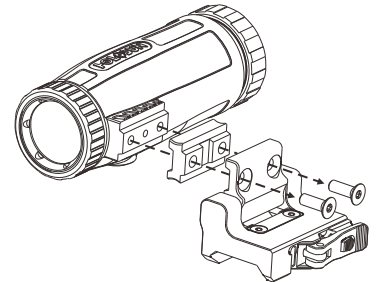

Figure 4
2) Remove the two screws at the bottom, then add or remove the spacer between the mount and the magnifier, as shown in figure 4.